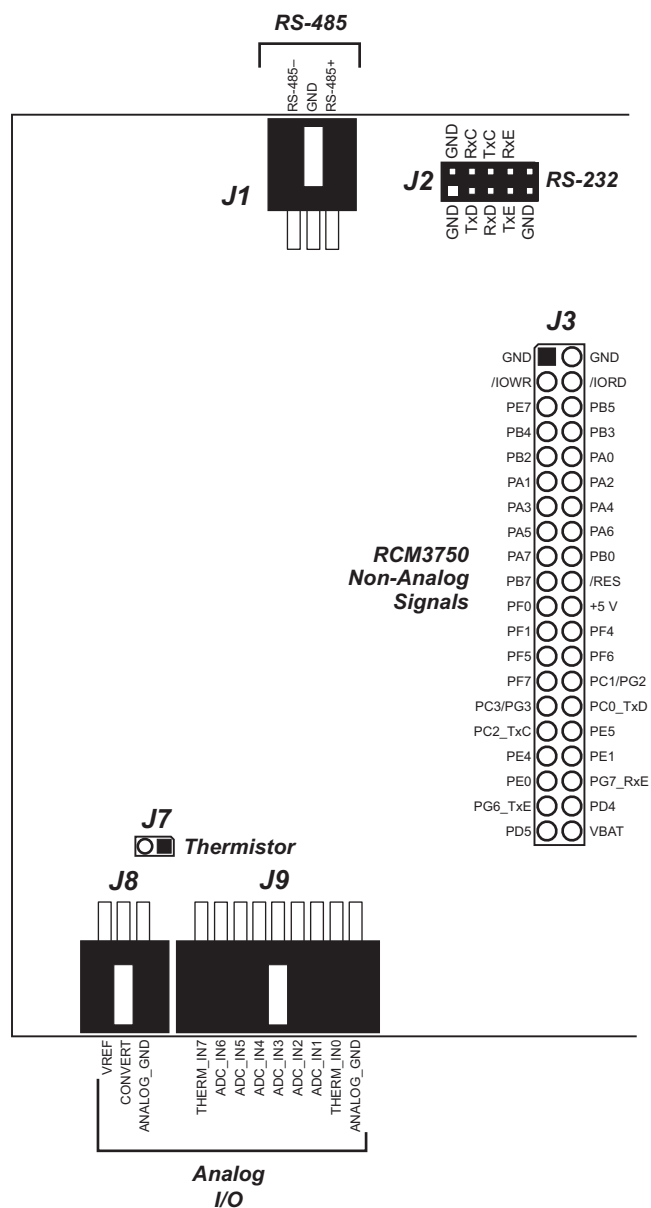

Figure B-4. RCM3700 Prototyping Board Pinout
- **Module Extension Headers**—The complete non-analog pin set of the RCM3750 module is duplicated at header J3. Developers can solder wires directly into the appropriate holes, or, for more flexible development, a 2 × 20 header strip with a 0.1" pitch can be soldered into place. See Figure B-4 for the header pinouts.
- **Analog I/O Shrouded Headers**—The complete analog pin set of the RCM3750 Prototyping Board is available on shrouded headers J8 and J9. See Figure B-4 for the header pinouts.
Figure B-4 shows the RCM3700 Prototyping Board pinouts.
Analog input THERM_IN7 on the Prototyping Board was designed specifically for use with a thermistor in conjunction with the **THERMISTOR.C** sample program, which demonstrates how to use analog input THERM_IN7 to calculate temperature for display to the Dynamic C **STDIO** window. The sample program is targeted specifically for the thermistor included with the Development Kit with R_0 @ 25°C = 3 k Ω and β 25/85 = 3965. Be sure to use the applicable R_0 and β values for your thermistor if you use another thermistor. Install the thermistor at location J7, which is shown in Figure B-4.